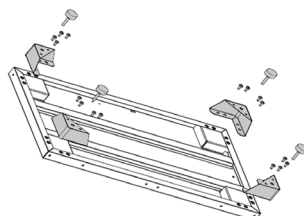

Figure 1.
1. Install each mounting bracket (#2) onto the bottom panel (#4) with four M6x12 screws (#1). Fully tighten these screws (Fig. 1).
2. Screw an adjustable leg (#3) into each mounting bracket. Only screw half-way in, as you may need to level the cabinet after assembly (Fig. 1).